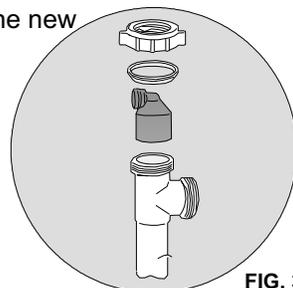

FIG. 3
4. Insert a new drain line adapter with a push-in connector (provided) into the top of the disposal tee until it firmly seats on the bottom of the socket. Gently secure with slip-joint washer and wing nut (provided). (See Fig. 3)